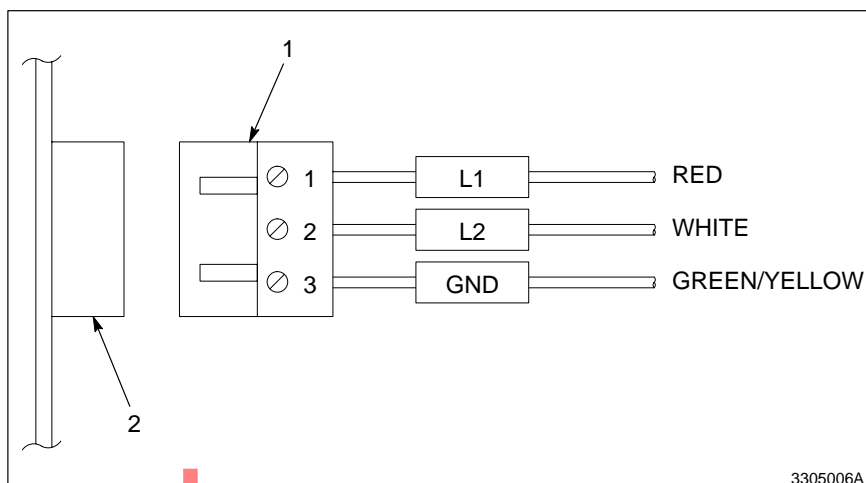

Fig. 3-6 Input power connections
3. Install the stripped ends of leads into the plug connector as shown in Figure 3-6. Connect the plug to pin connector P1.